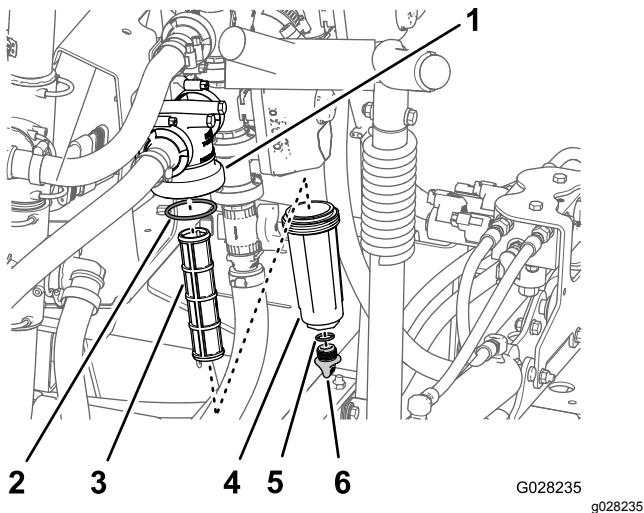

Figure 103
2. Align a drain pan under the pressure filter (Figure 103).
3. Rotate the drain plug counterclockwise and remove it from the bowl of the pressure filter (Figure 103).
4. Rotate the bowl counterclockwise and remove it from its filter head (Figure 103).
5. Remove the old pressure-filter element (Figure 103).
6. Check the O-ring for the drain plug (located inside the bowl) and the O-ring for the bowl (located inside the filter head) for damage and wear (Figure 103).
7. Install the new pressure-filter element into the filter head (Figure 103).
8. Install the bowl onto the filter head and tighten by hand (Figure 103).
9. Install the plug into the bowl and tighten by hand (Figure 103).